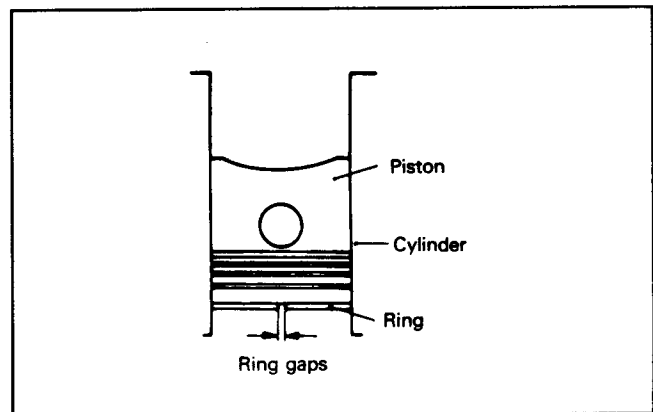

Figure 86
10. Measure the piston ring end gap. Insert the ring into the least worn area of the cylinder by pushing it into place with the piston (Fig. 86). If the gap exceeds 1.5 mm (0.060 in.) the ring must be replaced.